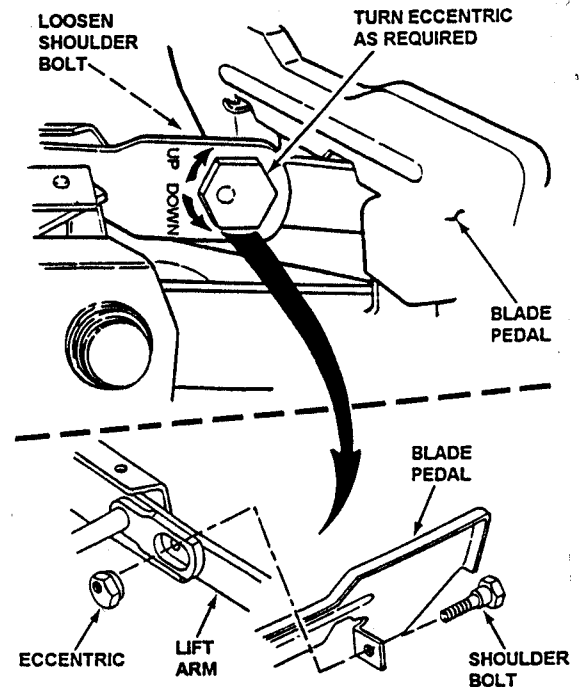

FIGURE 4.10
- d. Loosen shoulder bolt retaining the left side of blade pedal. See Figure 4.10.